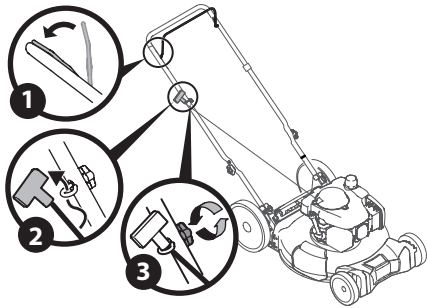

Figure 10
**NOTE:** The rope guide is attached to the right side of the upper handle. Loosen the knob securing the rope guide (Figure 10 on page 9).